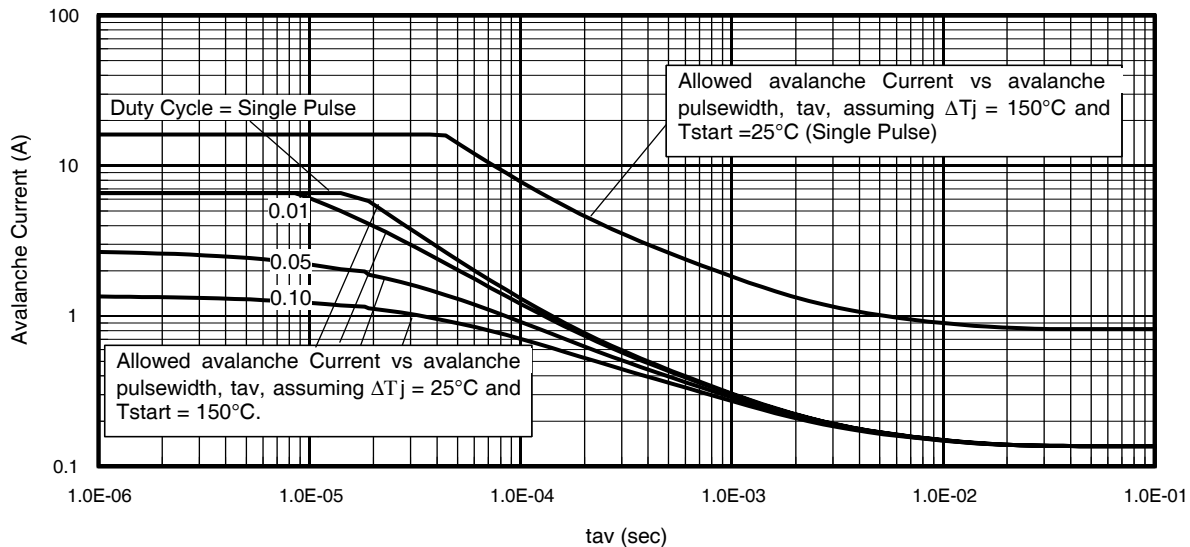

Fig 14. Typical Avalanche Current Vs. Pulsewidth
- ① Repetitive rating; pulse width limited by max. junction temperature.
- ② Starting  $T_J = 25^\circ\text{C}$ ,  $L = 1.46\text{mH}$ ,  $R_G = 25\Omega$ ,  $I_{AS} = 10A$ .
- ③ Pulse width  $\leq 400\mu s$ ; duty cycle  $\leq 2\%$ .
- ④  $R_{\theta}$  is measured at  $T_J$  of approximately  $90^\circ\text{C}$ .
- ⑤ Limited by  $T_{jmax}$ . See Figs. 14, 15, 17a, 17b for repetitive avalanche information
**Notes on Repetitive Avalanche Curves , Figures 14, 15:**
7.  $\Delta T$  = Allowable rise in junction temperature, not to exceed  $T_{jmax}$  (assumed as 25°C in Figure 14, 15).